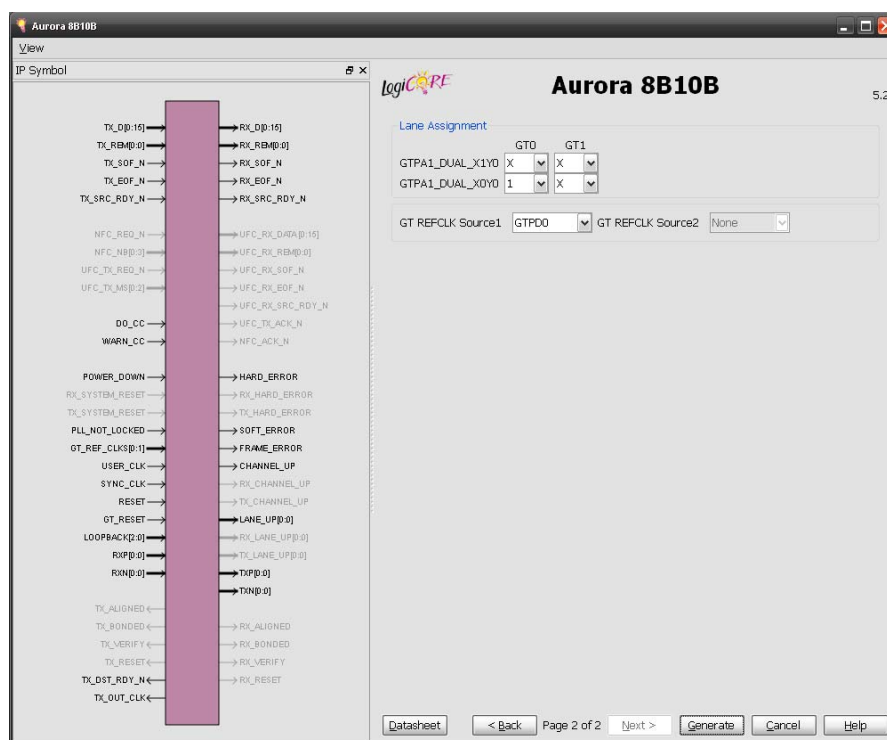

Figure 3-5: Second GUI Page for Spartan-6 FPGA GTP Transceivers
- Figure 3-5, page 30 for Spartan®-6 FPGA GTP transceivers